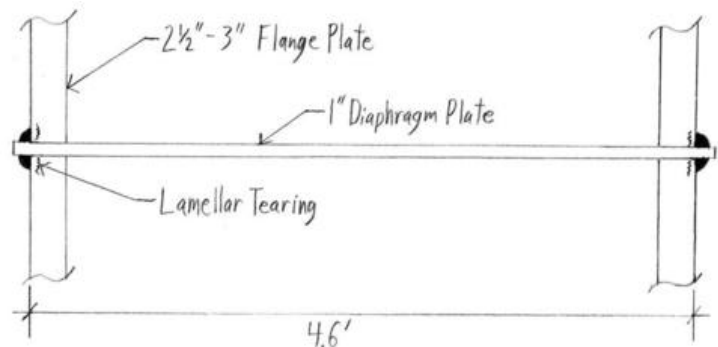

Figure 22. Lamellar Tearing Sketch
**Lamellar Tears** are cracks that are parallel and below the surface of the plate (Figure 22). This discontinuity is a result of a thin layer of nonmetallic materials that form just below the surface of the plate and this formation is not ductile. Lamellar tears will form stair step- like cracks under stress caused by welding or bending. When identified, lamellar tears should be treated like laminations and delaminations and be removed from production. Changing joint design can prevent the formation of the stresses that caused this type of cracking separation.